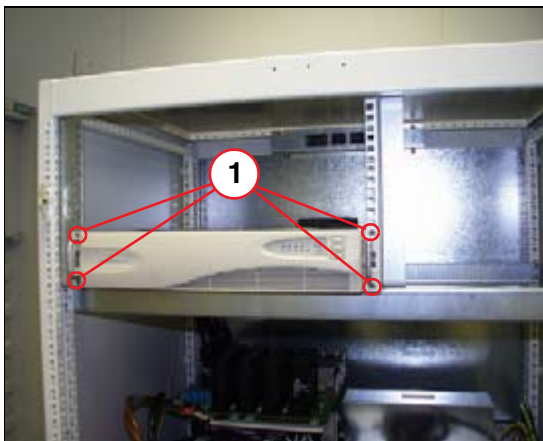

Fig. 38: UPS- uninterruptible power supply
- Remove the four mounting screws (1/Fig. 38 / p. 57).
- Secure the UPS with four Allen screws(1/Fig. 38 / p. 57).